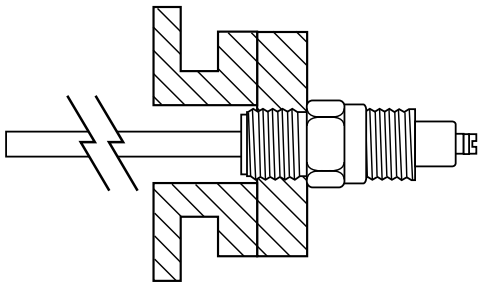

Figure 1
Unit will signal at probe level. Refer to Figures 1 and 2.
Non-conductive media — The set point is located at the probe at a point determined by the dielectric constant of the medium. Refer to Figure 1 on page 2. Calibration is required. Proceed to Step 4.
4. Check length of probe against chart in Figure 1 on page 3.